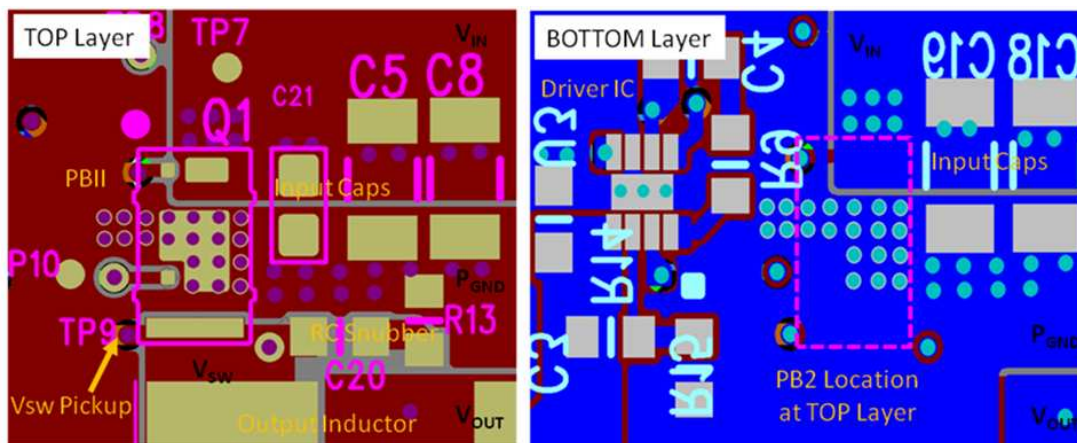

Figure 29. Recommended PCB Layout (Top Down View)
- The placement of the input capacitors relative to VIN and PGND pins of CSD87588N device should have the highest priority during the component placement routine. It is critical to minimize these node lengths. As such, ceramic input capacitors need to be placed as close as possible to the VIN and PGND pins (see Figure 29). The example in Figure 29 uses 1 x 10-nF 0402 25-V and 4 x 10-μF 1206 25-V ceramic capacitors (TDK part number C3216X5R1C106KT or equivalent). Notice there are ceramic capacitors on both sides of the board with an appropriate amount of vias interconnecting both layers. In terms of priority of placement next to the Power Stage C21, C5, C8, C19, and C18 should follow in order.
- The switching node of the output inductor should be placed relatively close to the Power Block II CSD87588N VSW pins. Minimizing the VSW node length between these two components will reduce the PCB conduction losses and actually reduce the switching noise level. See Figure 29. ⁽¹⁾
- Use the smallest drill size allowed in your design. The example in Figure 29 uses vias with a 10 mil drill hole and a 16 mil capture pad.